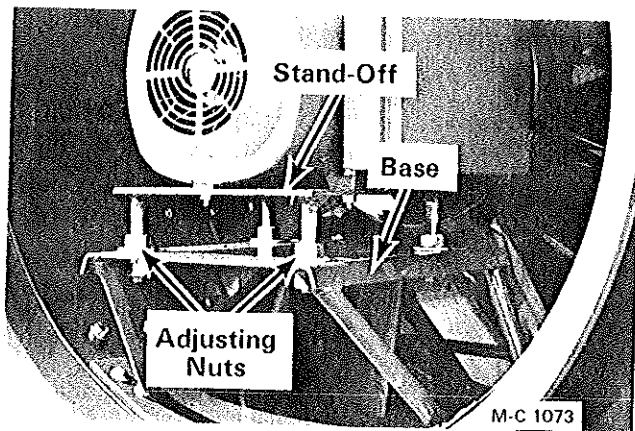

Figure 6
2. To adjust fan clearance, loosen the four locknuts under the motor base and turn the adjusting nuts on top to raise or lower the motor, see Figure 6. The holes in the base are slotted to allow for side to side adjustment. Tighten locknuts after adjustment has been completed. Install the fan guard.